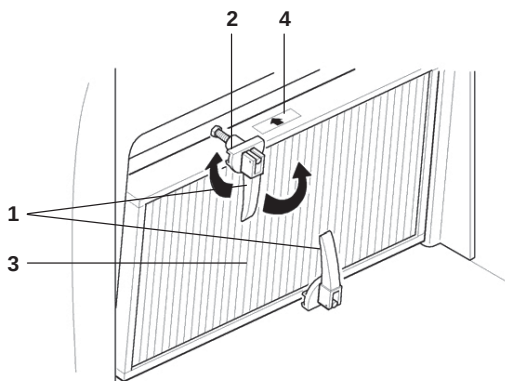

Fig. 6
- Open the handles (pos. 1)
- Turn the catches (pos. 2) 180°
- Replace the filter (pos. 3)
- The arrow (pos. 4) must be pointing in the direction of air flow, from the outside to the inside of the machine.
WARNING: insert the filter in the direction shown (pos. 4 Fig. 6).